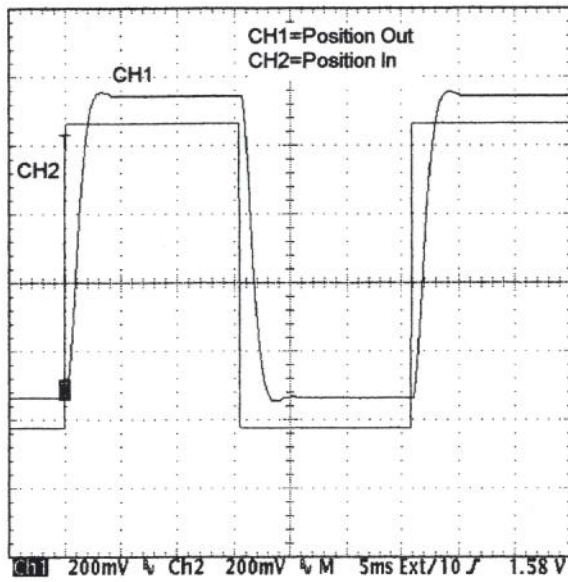

Figure 3.
9. Turn R42 CW until the undershoot is minimized, i.e. at the same amplitude as the settled position. See Figure 3.